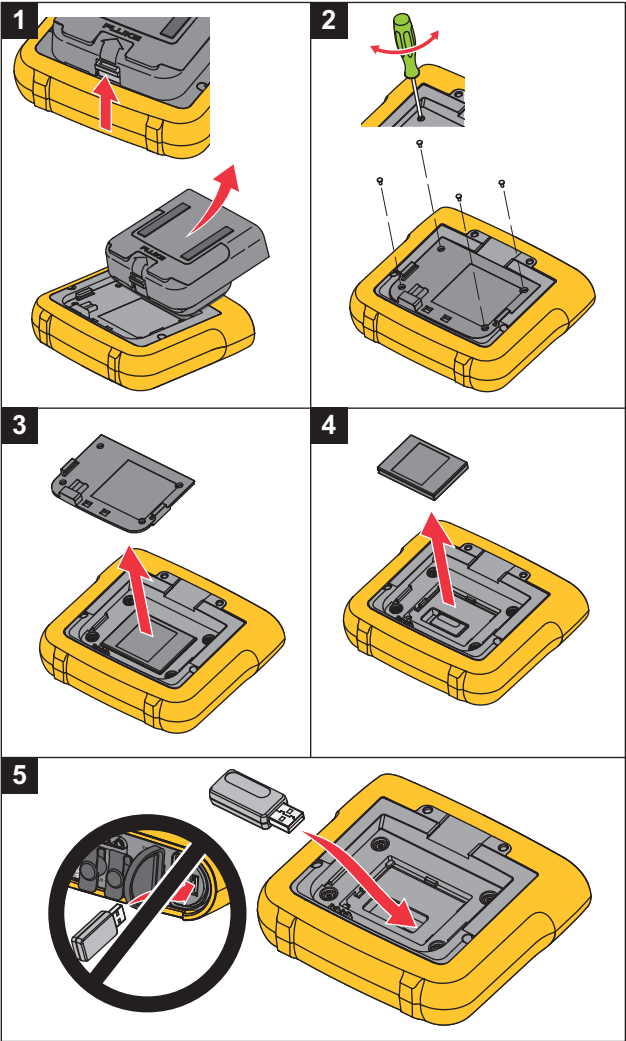

Figure 1. Adapter Installation
1. Remove the Power Supply. See Figure 1.